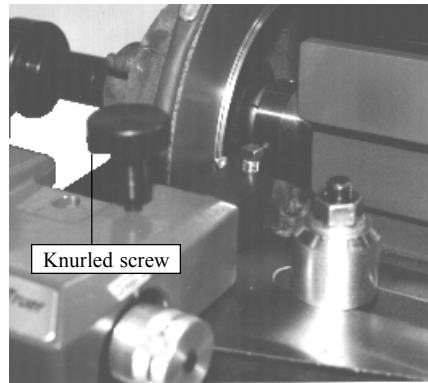

Figure 36
NOTE: The T-slot feature, with its adjustable pivot post, allows you to machine rotors of all sizes with the cross slide dovetail ways in full contact with carriage. This insures maximum rigidity of the lathe, while machining either drums or rotors. **See Figures 36 and 38.**
11. With the lathe still running, advance the cross slide until these cutters reach the innermost portion of the braking surface. Turn the knurled knobs in the direction of the arrow with micrometer dial wheels past zero to .003 or .004" to clean up the rotor. **See Figure 36.**
12. Tighten the knurled screws on top of the rotor truer casting to hold tool bars in proper position. **See Figure 36.** Engage the feed by pulling the control lever on the carriage slowly to the rotor position. The cutters will move across the face of the rotor, machining both sides simultaneously. On severely scored rotors, it may be necessary to make more than one cut. If so, repeat step 11.